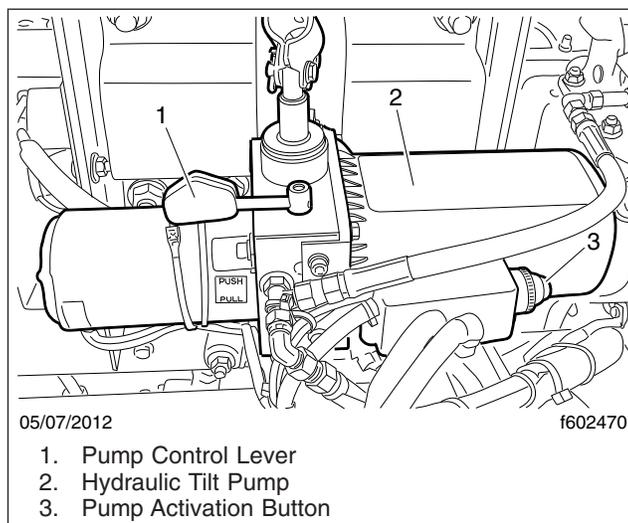

Fig. 27, Cab Tilt Pump
- Move the pump control lever to the TILT position. See fig. 27.